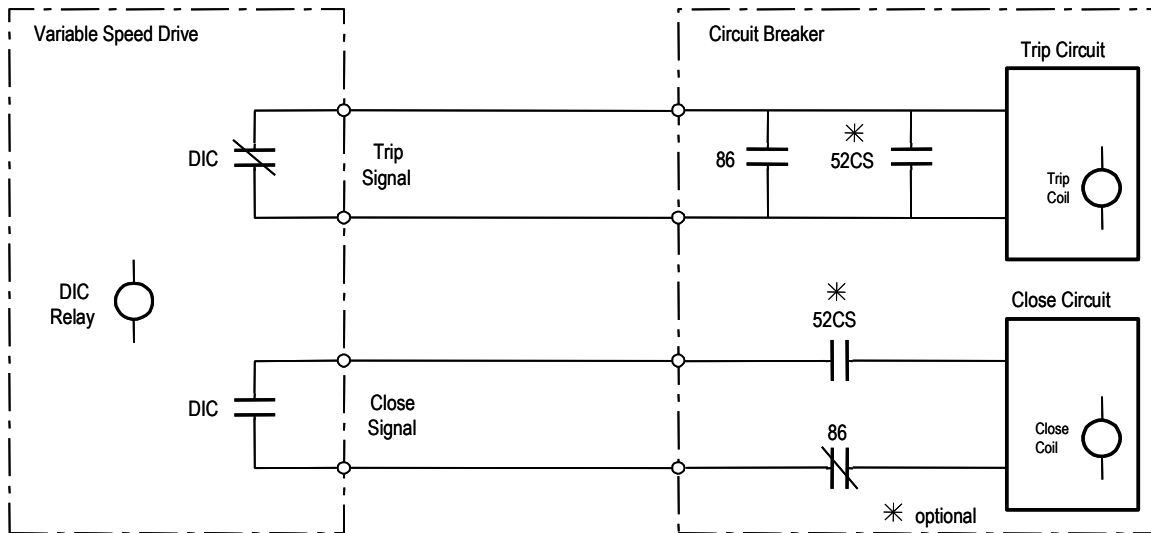

Figure 6 – Continuous Trip and Close Signals
- a) **Continuous Trip and Close Signals:** The 'DIC', 'DOC' and 'OPC' relay contacts (see Appendix A) referred to in this document are maintained contacts as shown in Figure 6 (using the example of DIC). The contacts are always shown in the de-energized state of the relay (the breaker tripped state). The DIC contact in the Trip circuit will remain closed as long as the drive is requesting the circuit breaker to be opened. The Trip contact is a failsafe contact that will request a trip under loss of power to the relay. The DIC contact in the Close circuit will remain closed as long as the drive is requesting the circuit breaker to be closed. These are the standard interface contacts to the circuit breaker offered by Rockwell Automation. The contact ratings are shown in section 9.0.